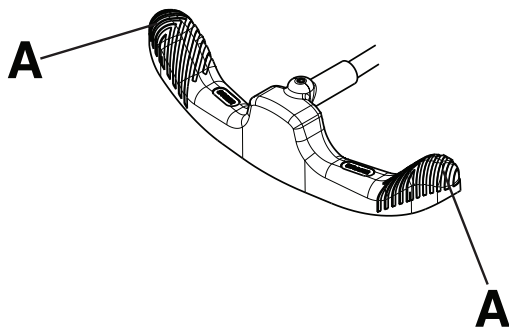

Figure 7 – Operating the brake/steer pedal
Note - Do not push down on the center of the brake/steer pedal. Always push down on the outer side (A) of the brake/steer pedal (Figure 7).